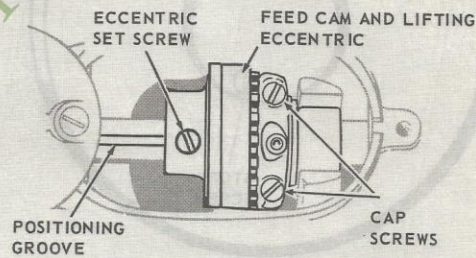

Fig. 49. Removing Horizontal Arm Shaft
5. Loosen eccentric set screw, Fig. 49. (In gear-driven machines, it will also be necessary to loosen the two set screws in arm shaft bevel gear.)
4. Position eccentric so that the set screw seats in the positioning groove, Fig. 49, of the arm shaft. Then tighten set screw.
3. Remove cap screws, Fig. 49, from connecting rod and remove cap.
2. Insert eccentric with belt into position with eccentrics resting on feed fork and connecting rod, as shown in Fig. 49.